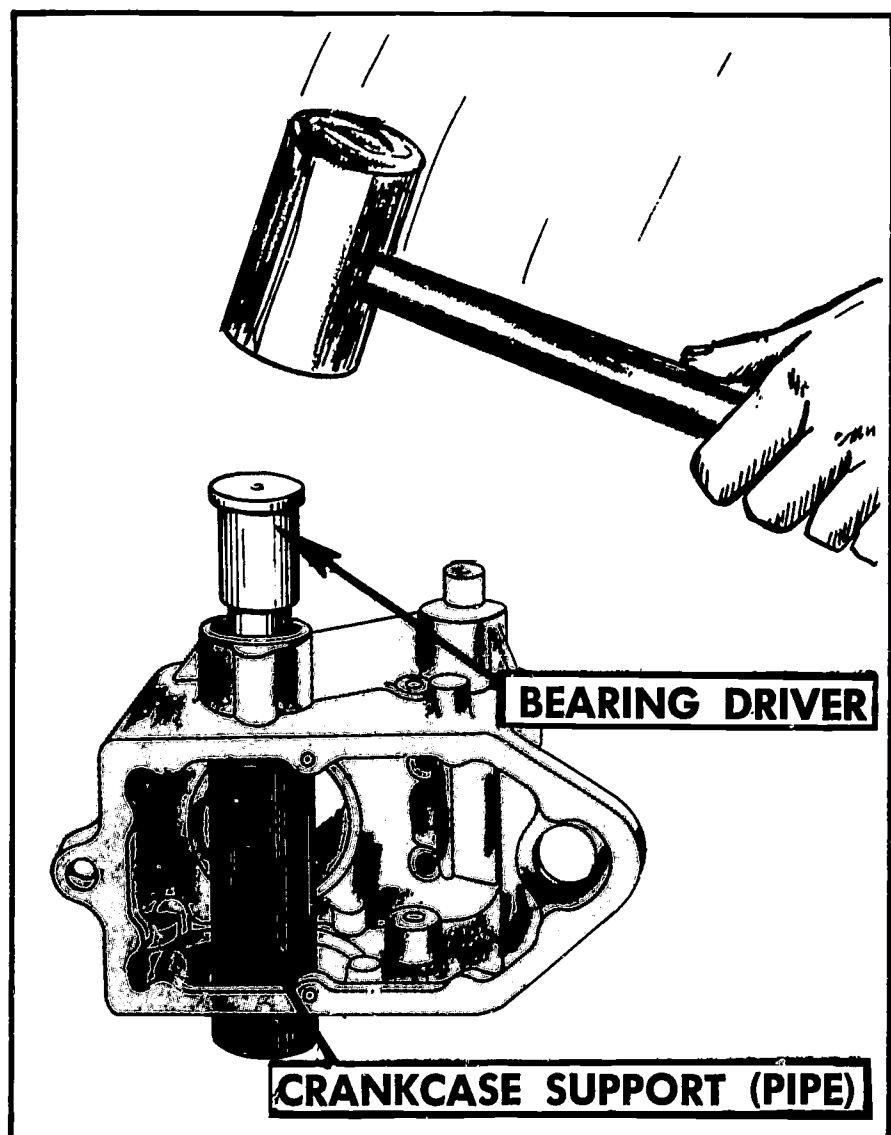

FIGURE 314. Removing a plain bearing. Crankcase is supported by large pipe in bearing area.
1. *Remove old bearings (Figure 314).*